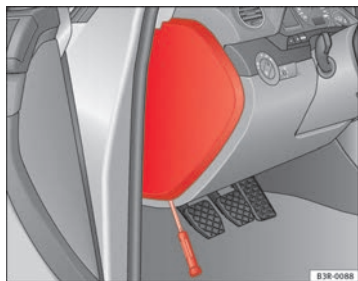

Fig. 190 Left side of dash panel: Fuse box cover
- Remove the fuse cover using a screwdriver ⇒ fig. 190.